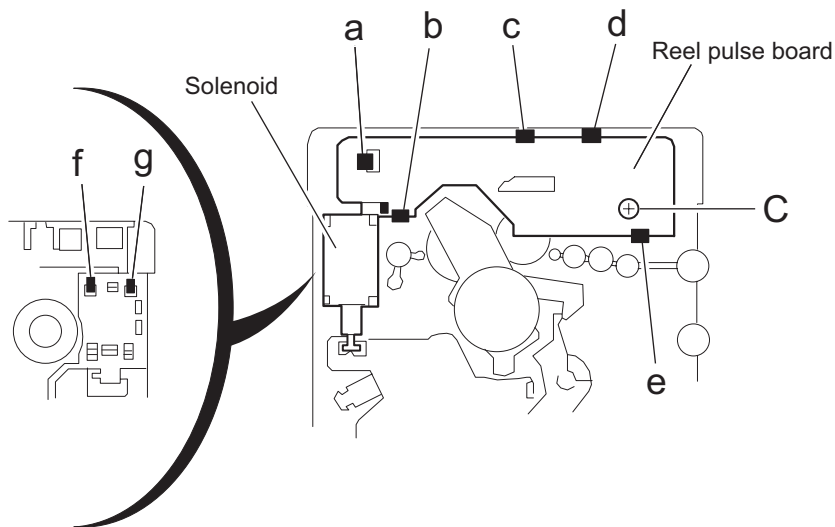

Fig.10
- (1) From the front side of the cassette mechanism, remove the slit washers attaching the capstan shaft **L** and **R**. Pull out the flywheels backward.
3.3.5 Removing the reel pulse board and solenoid (See Fig.10)